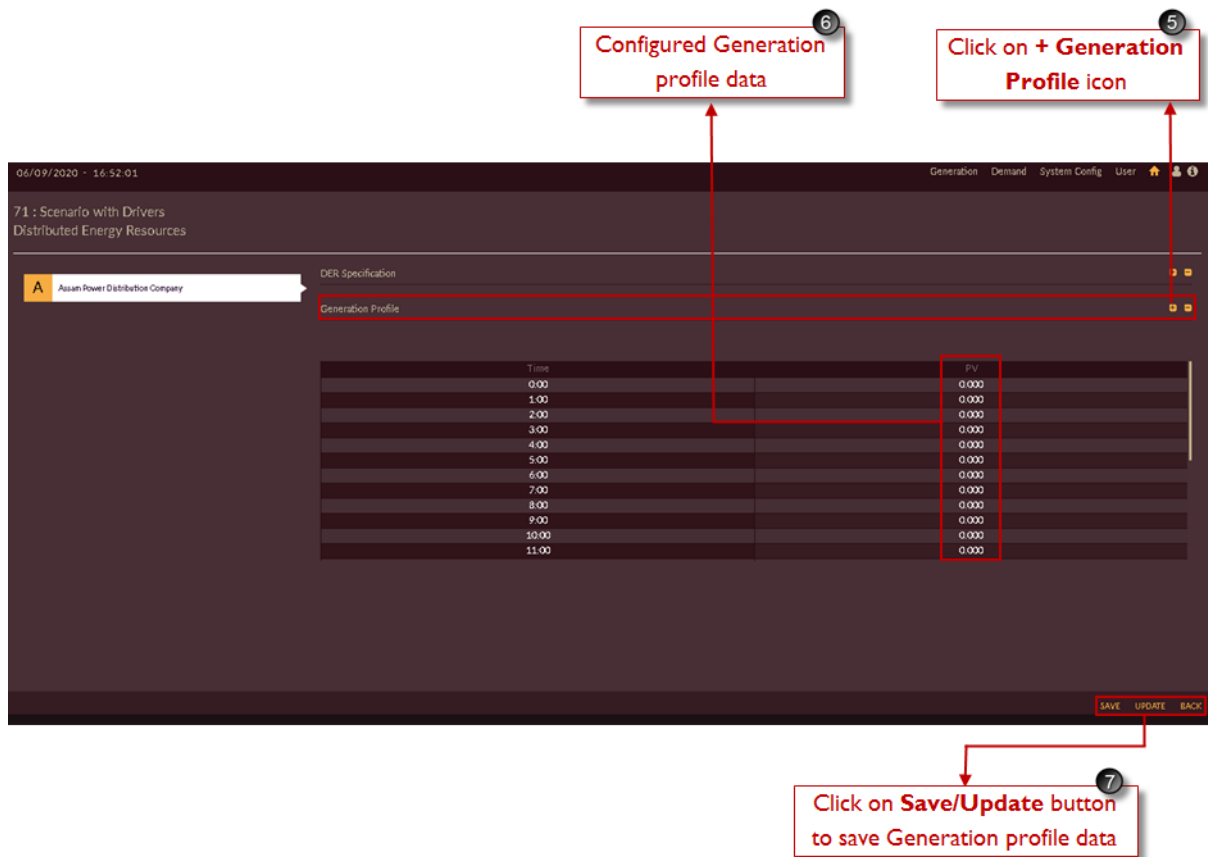

Figure 105. Edit/Save Generation Profile Data
5. Click on **Generation Profile**  icon, the generation profile page appears as shown in Figure 105.